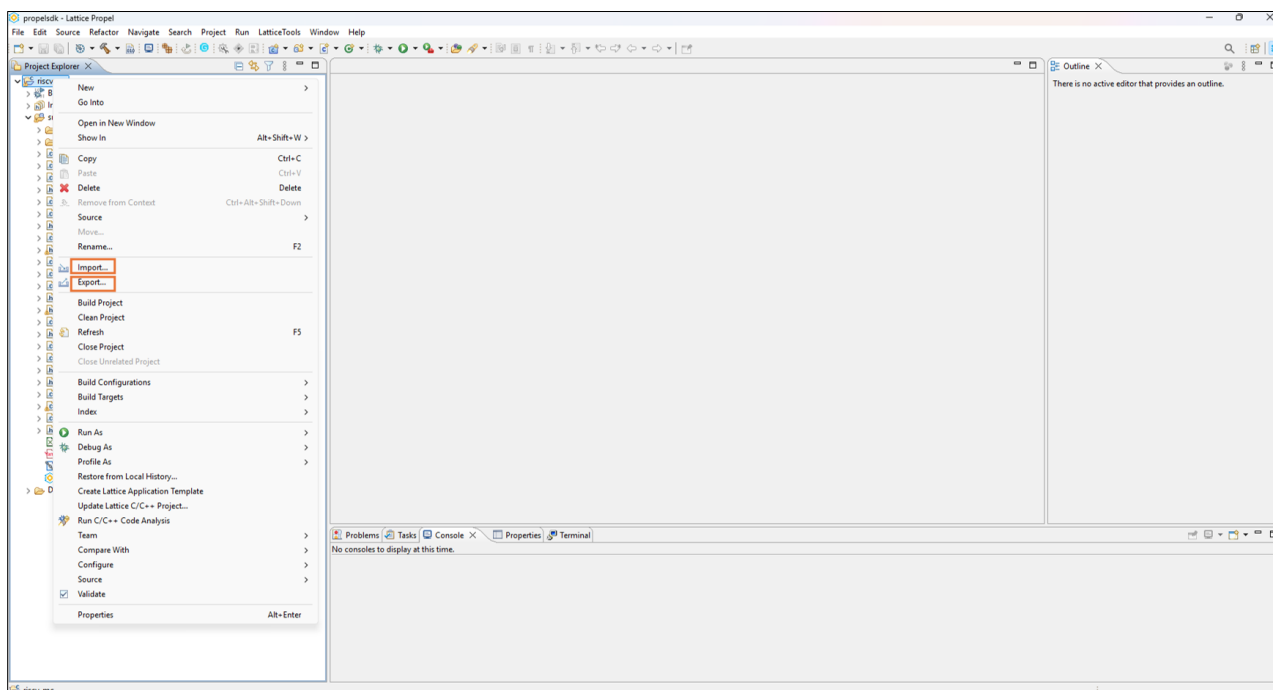

Figure 5.7. Launch the Project Building Process
- To launch the project building process, right-click on the process name **riscv_mc**, select **Clean Project** from the menu to clean up the output folders. Then, select **Build Project** from the menu, as shown in Figure 5.7. The output **riscv_mc.mem** file is located at: